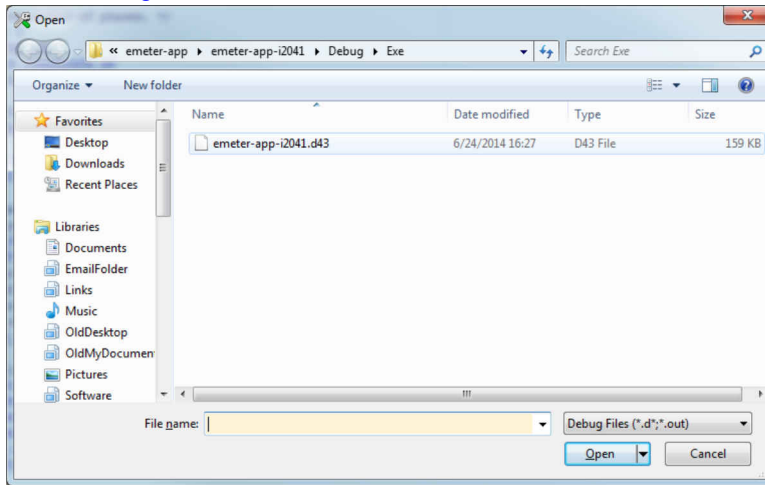

Figure 9-13. Select File to Download
- When prompted for selecting the file, select from the folder Submeter i2040 4k_3 SOCK_AUTO_OSR_IAR5.5 \emeter-app\emeter-app-i2041\Debug\Exe. The file is named “emeter-app-i2041.d43”, as shown in Figure 9-13.